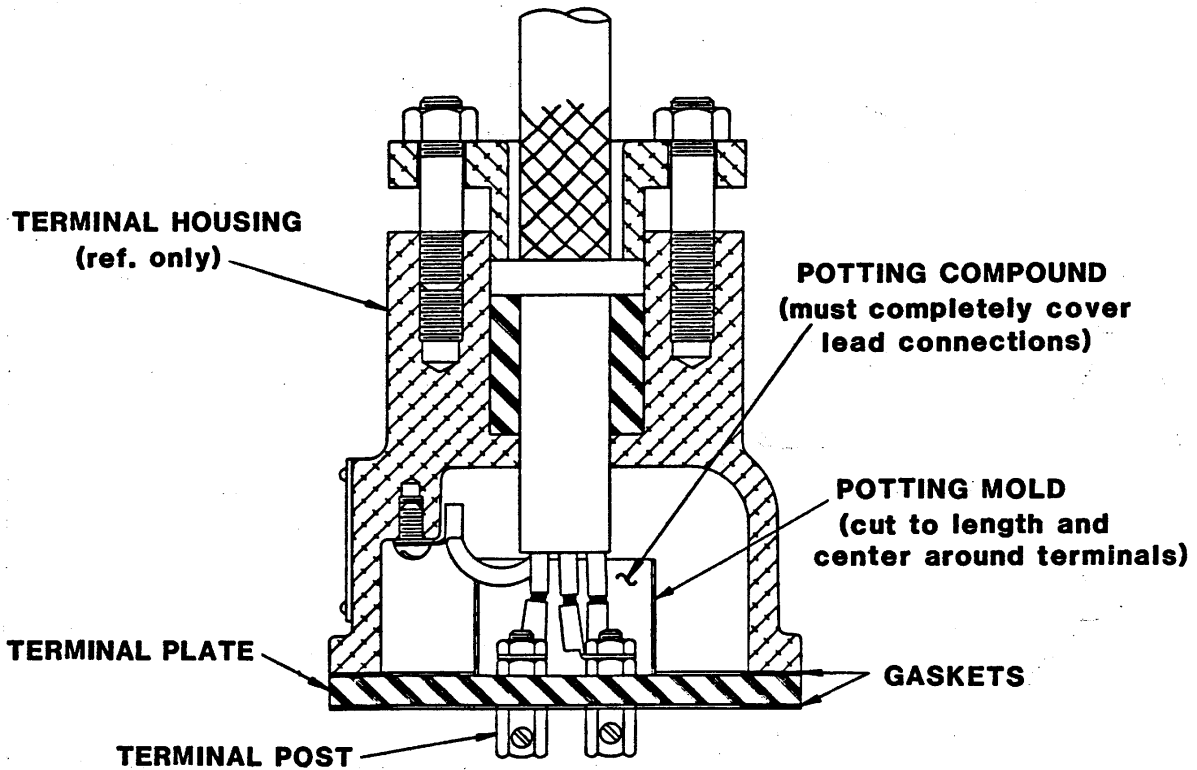

Figure 4. Potting Power Cable Leads In Terminal Housing
When shipped from the factory, the cable leads and terminals were encapsulated in heat-shrink tubing (43) and bonded to the terminal plate (47) with hot-melt adhesive to provide a water-tight seal. Since these materials and heating equipment are not generally available in the field, it is recommended that a repotting kit available from Gorman-Rupp (see optional equipment in parts list) or a commercially available kit (Products Research Corp., part no. PR-1201-Q Class 1 potting compound, or equivalent) be used to reseat the connections. See Figure 4, and the following instructions.
Trim the potting mold so it is just long enough to cover the terminal post studs (see Figure 4). Slide the potting mold up over the three standard leads of the power cable (36).